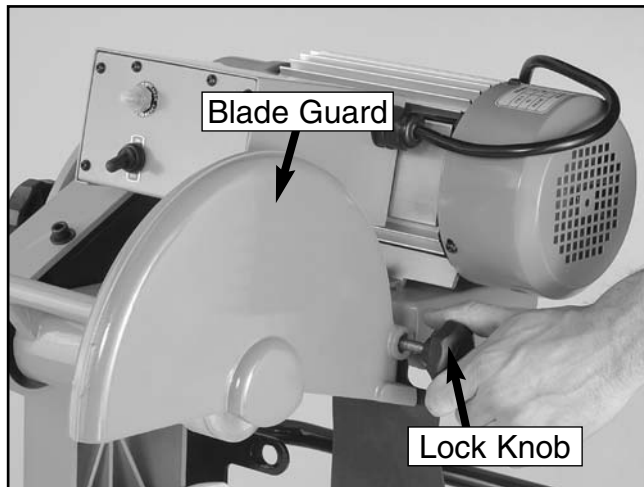

Figure 11. Attaching the blade guard.
9. Attach the blade guard to the motor assembly using the M8-1.25 x 30 lock knob and M8 flat washer as shown in **Figure 11**. *Tile saw blades are sold separately.*
2. Loosen the lock knob on the side of the blade guard (**Figure 11, Page 12**).